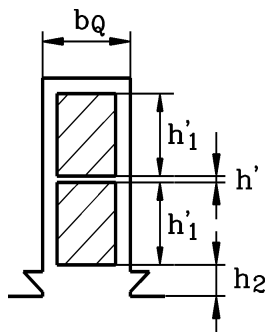

Fig. 15.1: Cross section in the stator slot; the upper and lower layer of the stator winding coils
The cross sections of the stator and rotor slots of a 500 kW, 6kV, 4-pole cage induction machine are presented in Fig. 15.1 and 15.2. The number of stator/rotor slots is $Q_s / Q_r = 60 / 50$, the double-layer stator winding has 10 turns per coil and the stator winding coils are connected in series and pitched by 12/15. The insulations of the stator winding are given in Table 15.
- 2) Determine the dimensions of Fig. 15.1 and calculate the stator slot leakage inductance! Consider an equivalent iron length $l_e = 0.392$ m.